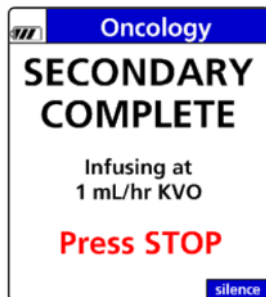
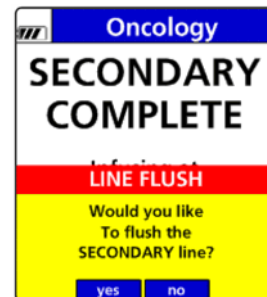

Figure 112. Secondary Complete Alarm.
Figure 113. Secondary Complete: Line Flush Dialog Box.
1. At the completion of the secondary infusion, the Secondary Complete screen will display if the secondary callback has been enabled or configured for this drug in the Drug Library. See Figure 112. Also see Figure 113.